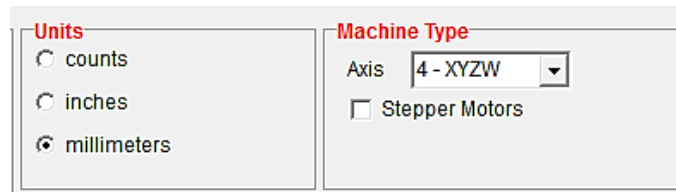

Figure 29: Units and Machine Type
4. Select the Stepper Motors box if your workcell has stepper motors instead of servo motors. Refer to Figure 29.